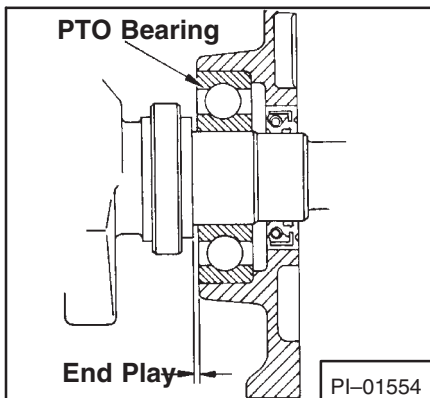

Fig. 54 Crankshaft End Clearance
- b. Crankshaft end play is measured (with feeler gauge) between inner race of rear bearing (P.T.O. end) and shoulder on crankshaft (Fig. 54). If end play is not within tolerance as stated in Clearance Section, remove bearing plate and add or subtract gaskets to achieve proper clearance.